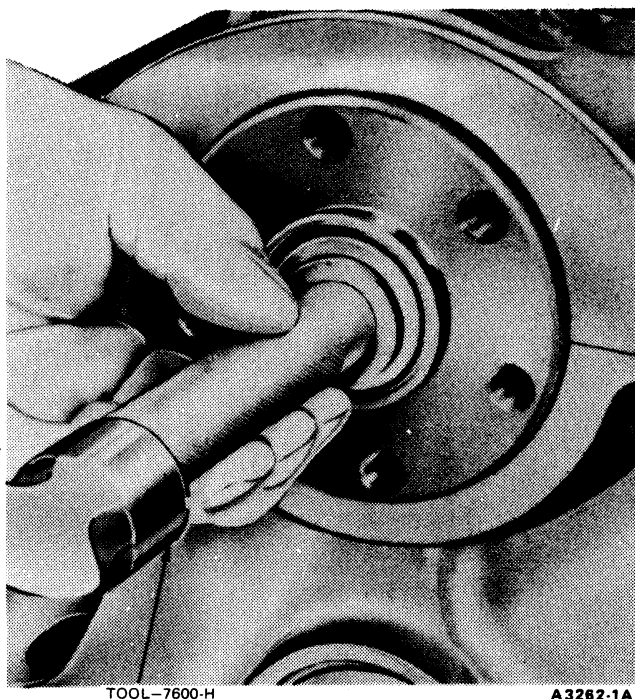

FIG. 3 Installing Clutch Pilot Bearing Assembly
1. Using Tools T74P-7137-A and T74P-7137-H or equivalent, install the pilot bearing with the seal facing the transmission (Fig. 3) so that the adaptor is not cocked.